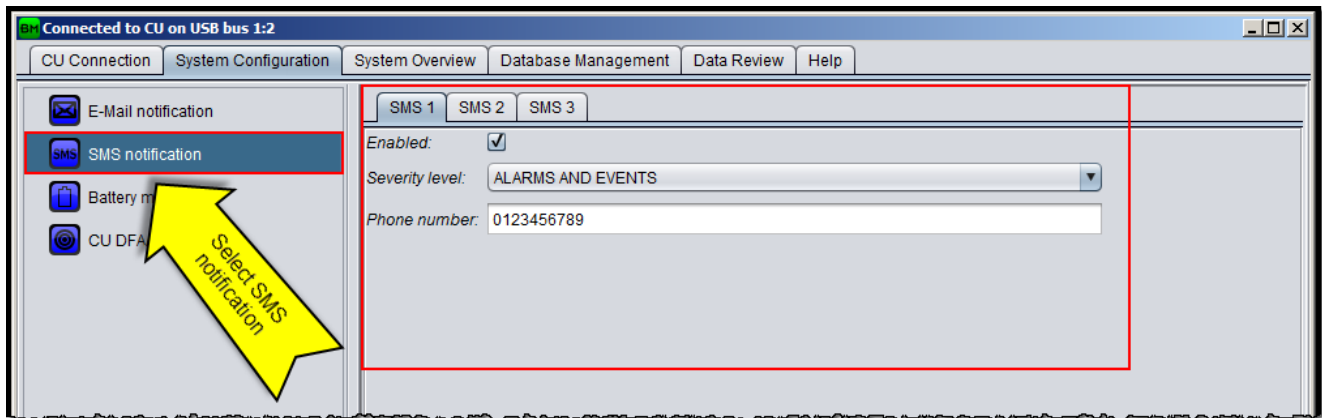

Figure 22: SMS notification configuration
8. Select SMS notification as shown on Figure 22.